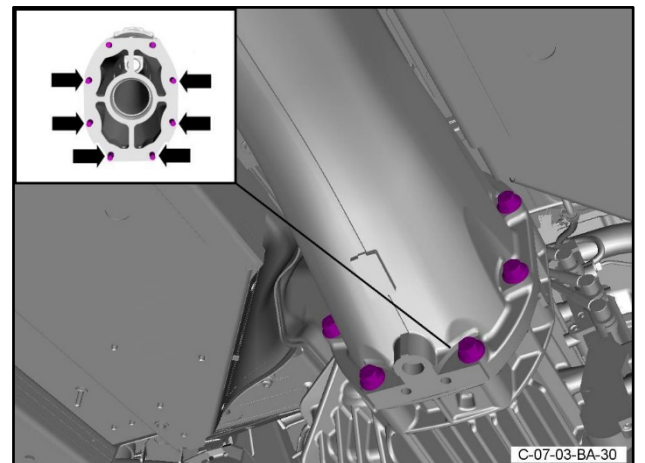

Figure 46
- 89.** Install six of the eight bolts that attach the transaxle to the torque tube (refer to Figure 46).